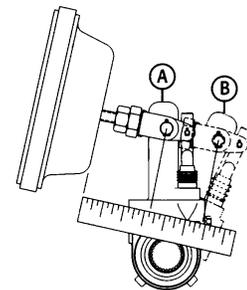

Figure 14 – Measuring Maximum Stroke
- Using a ruler, measure the distance from the face of the air chamber to the center of the large pin in the clevis (A) (see fig. 14).
- Make an 85 psi brake application and allow the air chamber to travel its maximum stroke. Measure the distance between the face of the air chamber and the center of the large clevis pin (B) (see fig. 14). The difference between the (A) measurement and the (B) measurement is the push rod stroke. Check the charts located on page 10 for the proper maximum stroke after adjustment of the brakes.